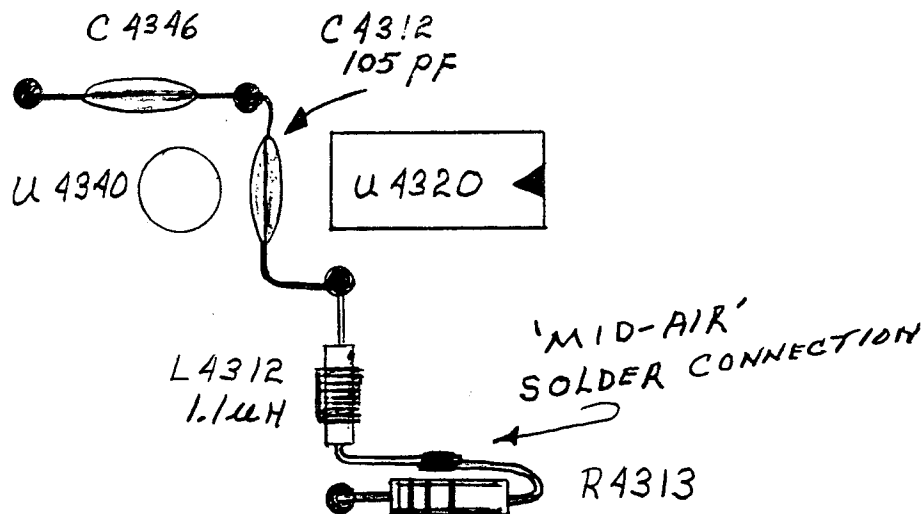

Fig. 1
- () 3.10.1 Lift the lead of R4313 that is located closest to U4320, then move R4313 so that it is parallel with U4320 with unsoldered lead bent up over back of resistor. Solder the 1.1 μ H coil (L4312) to this lead and then solder remaining coil lead to the former resistor mounting on the E.C. board. Refer to Fig. 1.